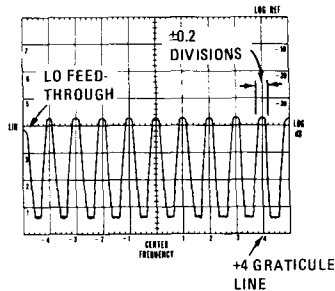

Figure 5-7. 47 MHz LO Adjustment Display
6. Using non-metallic tuning tool, slowly adjust 8552A A3A2C4 (see Assembly and Adjustment Locations photo in 8552A manual) until the LO feedthrough appears on the CRT (about ± 1 turn); then adjust 8552A A3A2C4 until LO feedthrough is centered on far left graticule line (see Figure 5-7).